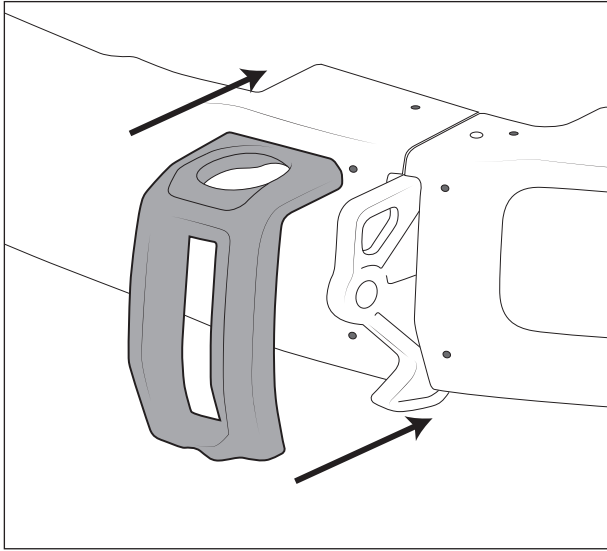

Figure 17
1. Install one side tow loop bezel with M6 x 20 bolts and washers (fig. 17). Hand tighten.